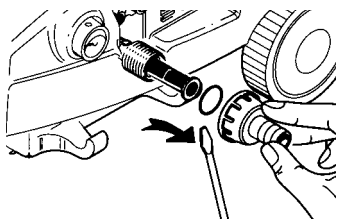

fig 1
- 3.1.2. Check the inlet filter is clean; pump delivery and pressure will be reduced if blocked. Never use the machine without a filter (fig 1).